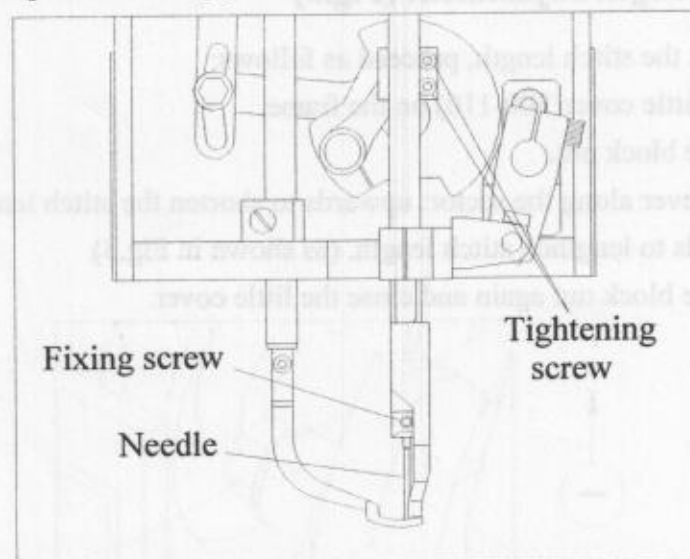

Fig 4
4.1 Needle replacement (Fig.4)
- Loosen the fixing screw (as shown in Fig.4).
4.2 Set the lowest position of the needle bar (Fig.4)